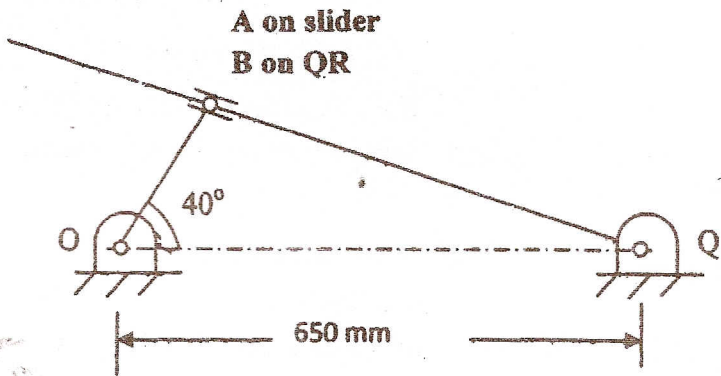

Fig. 2
- (c) For the inverted slider crank mechanism shown in Fig. 2, find the angular acceleration of link QR. The crank OA is 300 mm long and rotates at 20 rad/s in clockwise direction. (10)